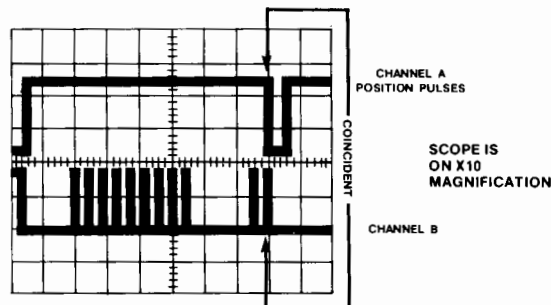

Figure 8. Velocity Turn-Around Adjustment
5. Adjust R48 (labelled TA) to position the leading edge of the second position pulse coincident with the leading edge of the second pulse in the third group of servo adjust pulses as shown in figure 8.
6. Change the external trigger slope control to negative going. With the corebar mogating, adjust R62 (RTA) to position the leading edge of the second position pulse coincident with the leading edge of the second pulse in the third group of servo adjust pulses as illustrated in figure 8